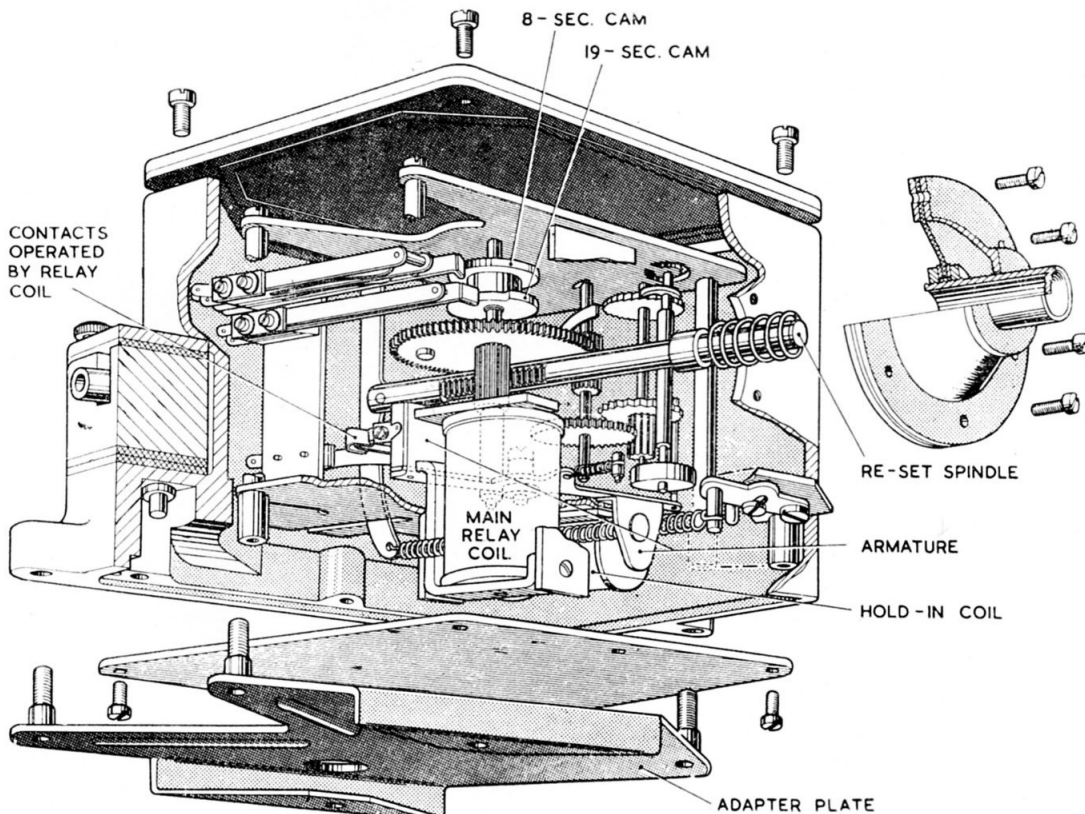
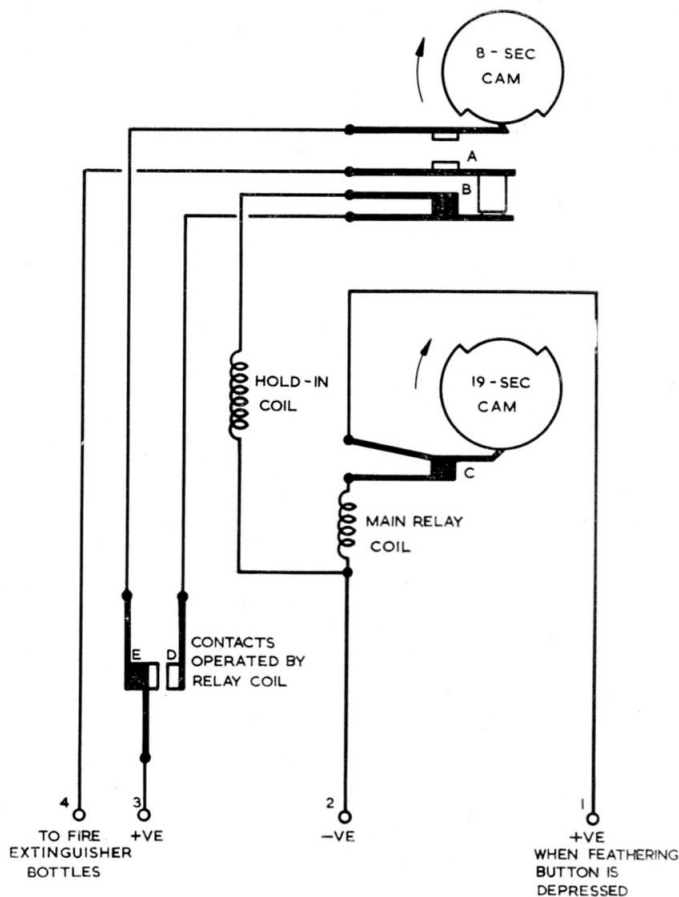

Fig. 3. Mechanism of time delay switch
Fig. 4. Circuit diagram of time delay switch
4. The mechanism of the switch is shown in fig. 3, and the internal circuit in fig. 4. The latter indicates the positions when the mechanism is cocked and the relay de-energized. The 8-second change-over contacts complete the circuit to the fire extinguisher bottles when the relay is de-energized, and the 19-second contacts break the circuit to the relay coil. A hold-in coil keeps the armature in the closed position, and thus ensures the continued running of the mechanism for the first eight seconds after initiation.
on the side of the switch. In the wound or cocked position, with the coils de-energized, the contacts in fig. 4 marked A and D are open and those marked B, C, and E are closed. When the feathering button is depressed, positive potential is applied to terminal 1, the main coil is energized, contacts E open and D close, and the hold-in coil is energized through the 8-seconds contacts B. After 8 seconds, contacts B open and A close, thus preparing the fire extinguisher circuit, and the hold-in circuit is opened. After 19 seconds, contacts C open and the main coil is de-energized, the armature is released, and contacts D open and E close, thus completing the circuit to the fire extinguisher bottles through contacts E and A.